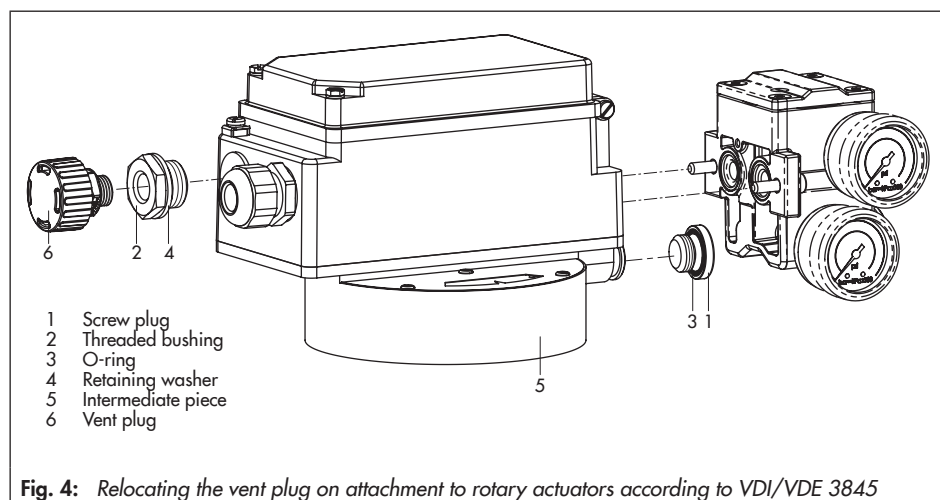

Fig. 4: Relocating the vent plug on attachment to rotary actuators according to VDI/VDE 3845
→ For the attachment of the reversing amplifier to the above listed devices with mounting kit 1400-8815, remove the vent plug (6) from the intermediate piece (5) and insert into the positioner (see Fig. 4):
1. Place the O-ring (3) onto the screw plug (1).
2. Screw the screw plug (1) into the vent opening of the intermediate piece (5).
3. Thread the threaded bushing (2) and retaining washer (4) into the free cable gland of the positioner.
4. Screw vent plug (6) into the threaded bushing (2).